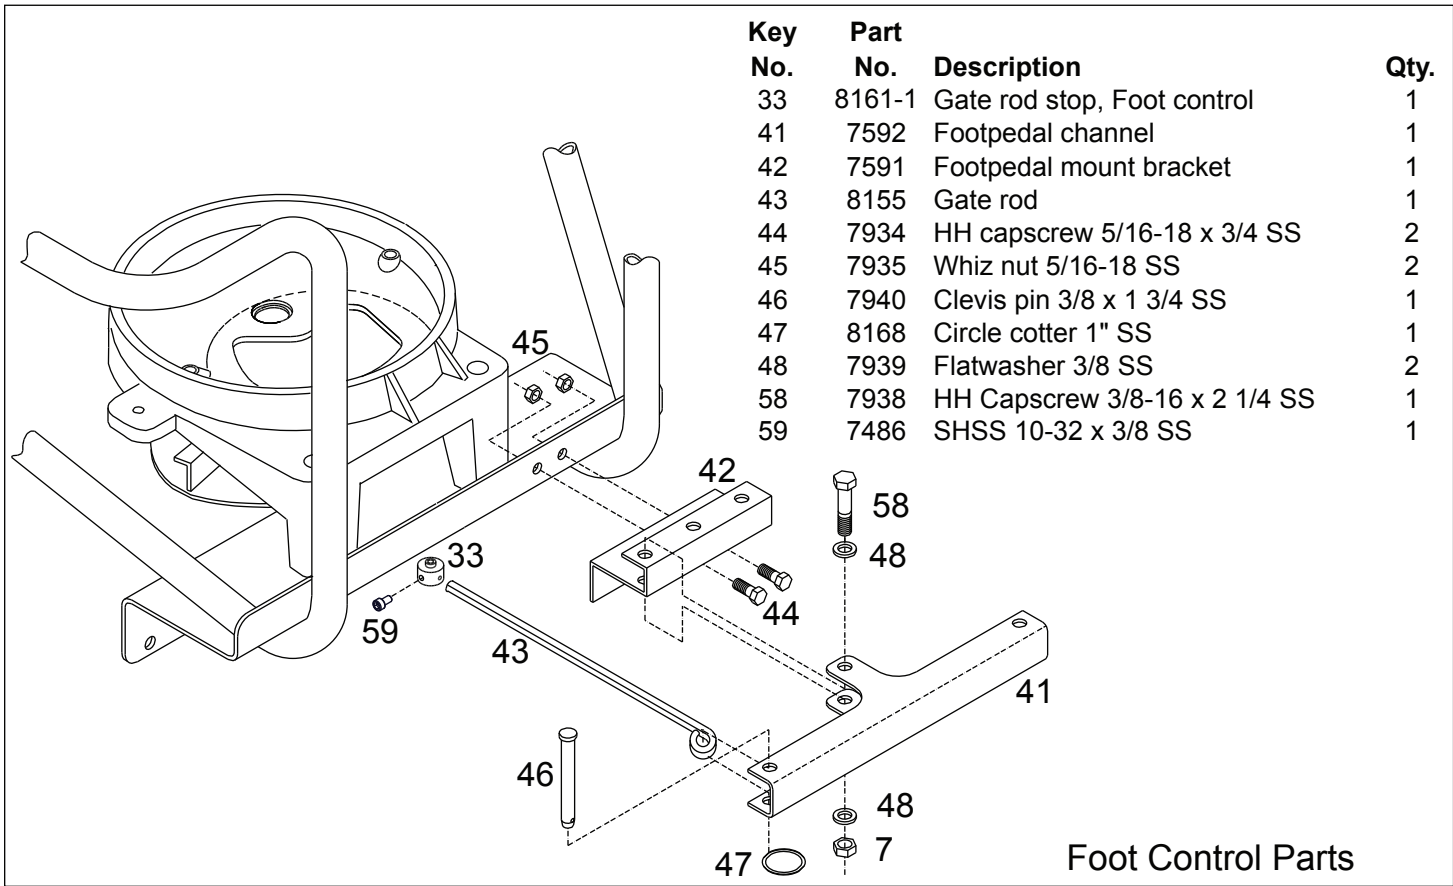

Figure 5
2. Loosen wing nut and move gauge to desired setting. See Fig. 5. Tighten wing nut.